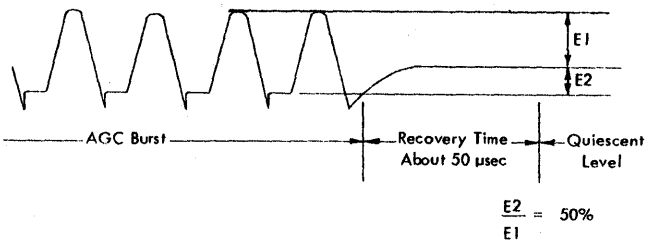

Figure 2-4. Read Amplifier Clipping Level
6. Referring to Figure 2-4, observe the waveform that appears at pin A of the OR- AND (ANW-) and by means of the potentiometer on this card adjust the clipping level to 50%.
NOTE: This is easily accomplished by maintaining E2 (Figure 2-4) at a constant vertical deflection of one cm (by means of the oscilloscope variable voltage control), and by adjusting the potentiometer on the OR- AND (ANW-) to obtain a vertical oscilloscope deflection of two cm for E1 (Figure 2-4).